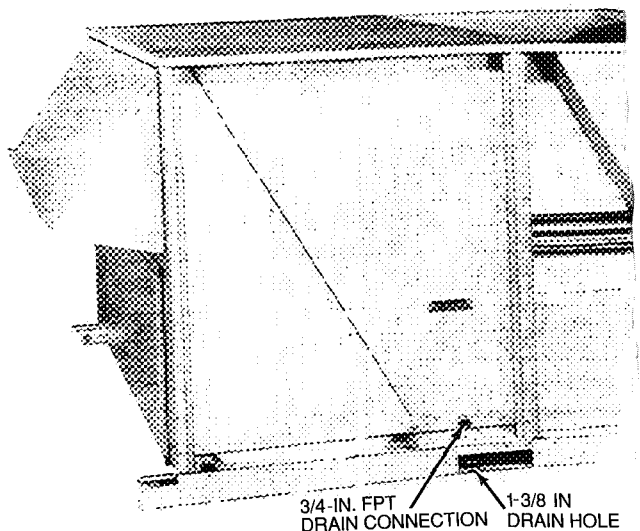
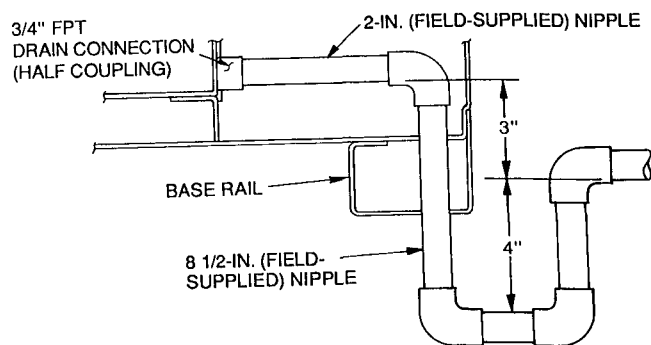

**Fig. 13 — Condensate Drain Details
Fig. 14 — Condensate Drain Piping Details
Step 6 — Trap Condensate Drain — See Fig. 13 for drain location. One $\frac{3}{4}$ -in. half coupling is provided inside unit evaporator section for condensate drain connection. An $8\frac{1}{2}$ in. x $\frac{3}{4}$ -in. diameter and 2-in. x $\frac{3}{4}$ -in. diameter pipe nipple, coupled to standard $\frac{3}{4}$ -in. diameter elbows, provides a straight path down through hole in unit base rail (see Fig. 14). A trap at least 4-in. deep must be used.